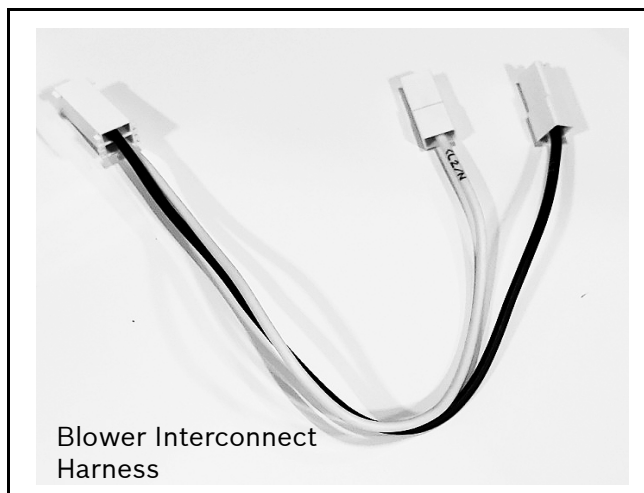

Fig. 16 Blower Interconnect Harness
7. Discard the Blower Interconnect Harness. (See Fig. 16.)